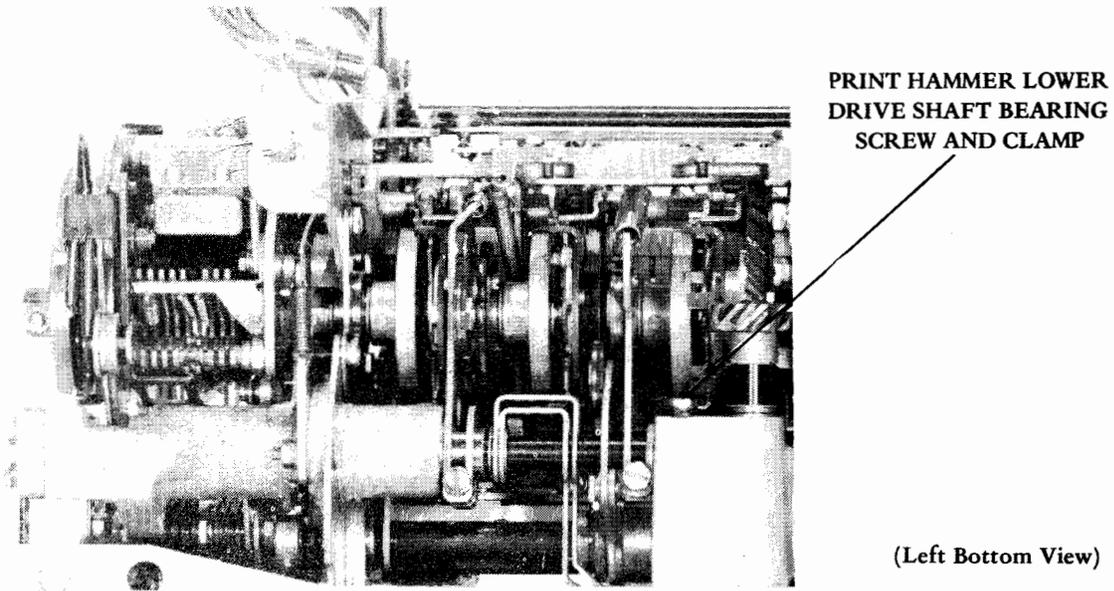

Figure 4 - Bottom Section of Unit Used in Connection With Front Plate Assembly Removal
- (2) Loosen the screw (under the printer) used to mount the print hammer lower drive shaft bearing clamp (Figure 4); rotate clamp to the left side. Center the bearing under the clamp when replacing the clamp. Remove the horizontal dampener spring TP78823, located at the lower left hand corner of the front plate (Figure 6).
- (3) If the unit has horizontal tab-stop control, disconnect the horizontal control cables from the function levers in slots 15 and 16. Loosen the cable clamp on the codebar assembly and slip the cables from under the cable clamp. When the unit is equipped with horizontal tab-stop control, remove the horizontal tab connecting link; also remove the retaining ring which connects the link to the horizontal tab arm. Remove the four front plate mounting screws and remove the front plate.